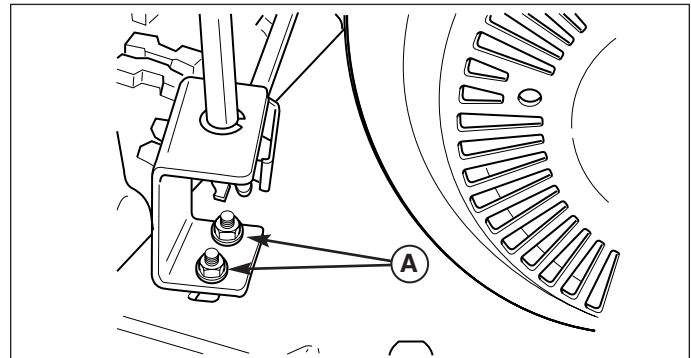

Figure 24. Gear Bracket Adjustment
1. Loosen the gear bracket mounting nuts (Figure 24).